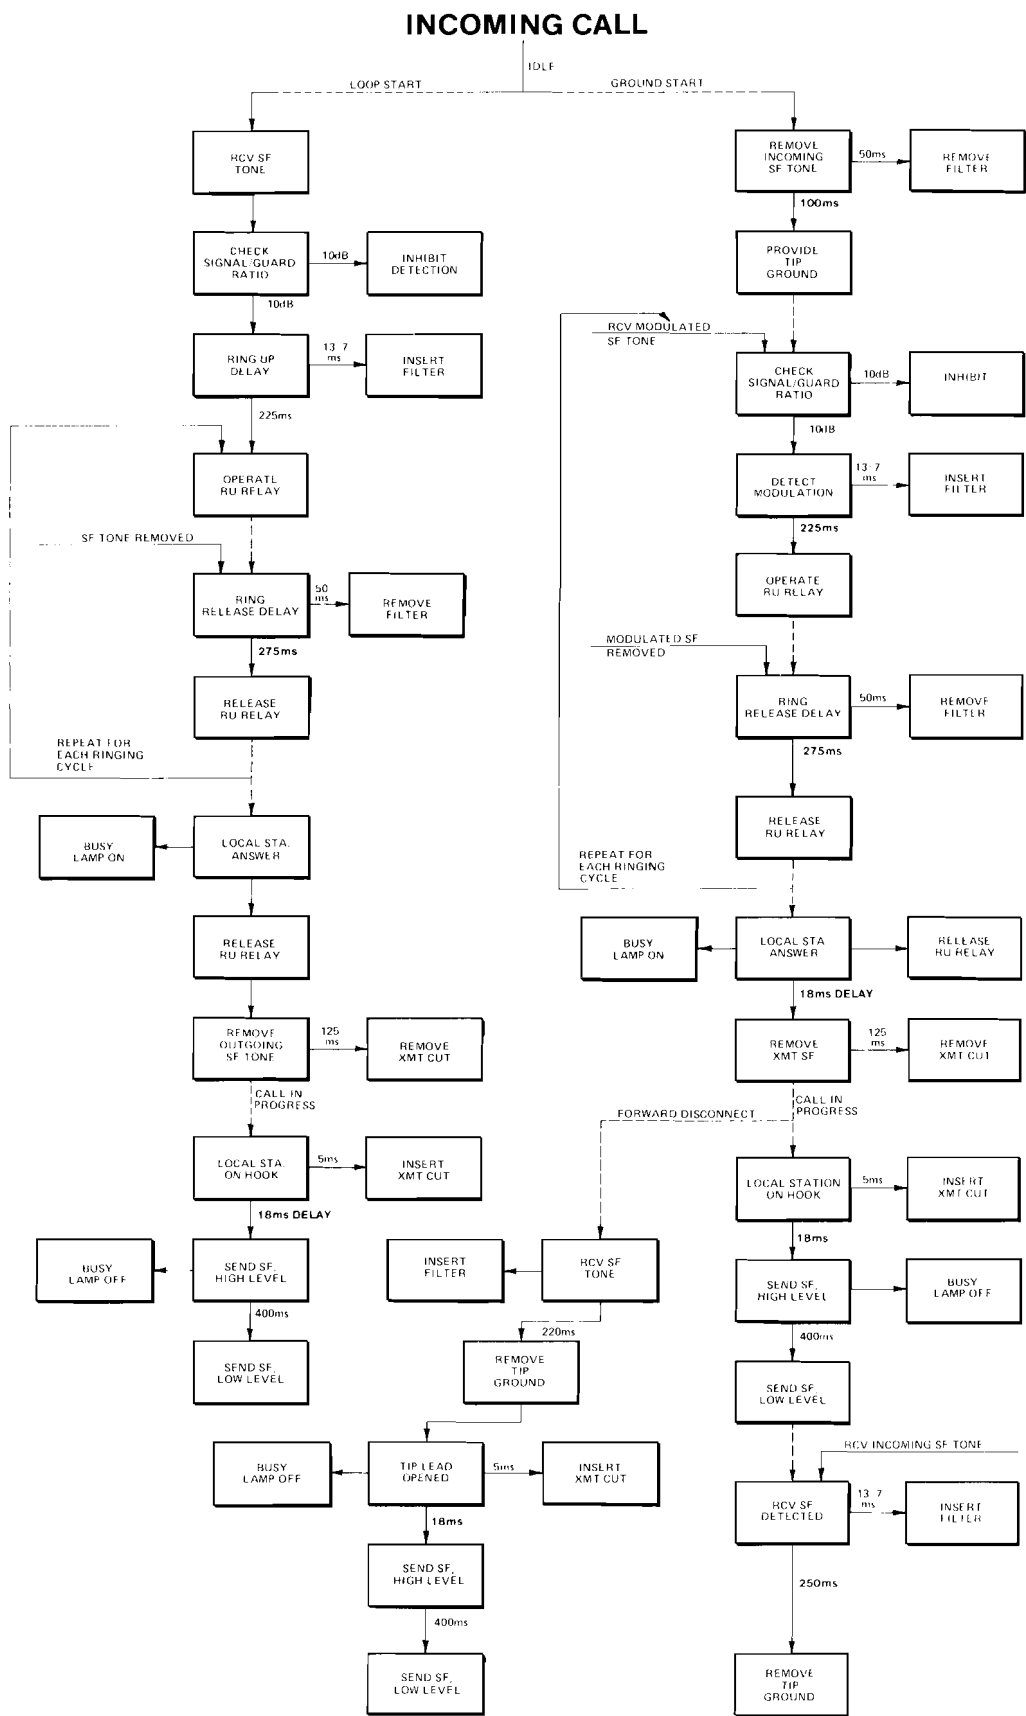

figure 6. Function sequence flowchart, incoming call
4.01 This circuit description is intended to familiarize you with the operation of the 6163X 2Wire FXS-to-SF Terminal Repeater modules. Attempts to troubleshoot these modules internally are not recommended and may void your warranty. Please refer to the 6163X block diagram, section 5 of this practice, as an aid in following this circuit description. Figures 6 and 7 are function sequence flowcharts that illustrate sequential operation of